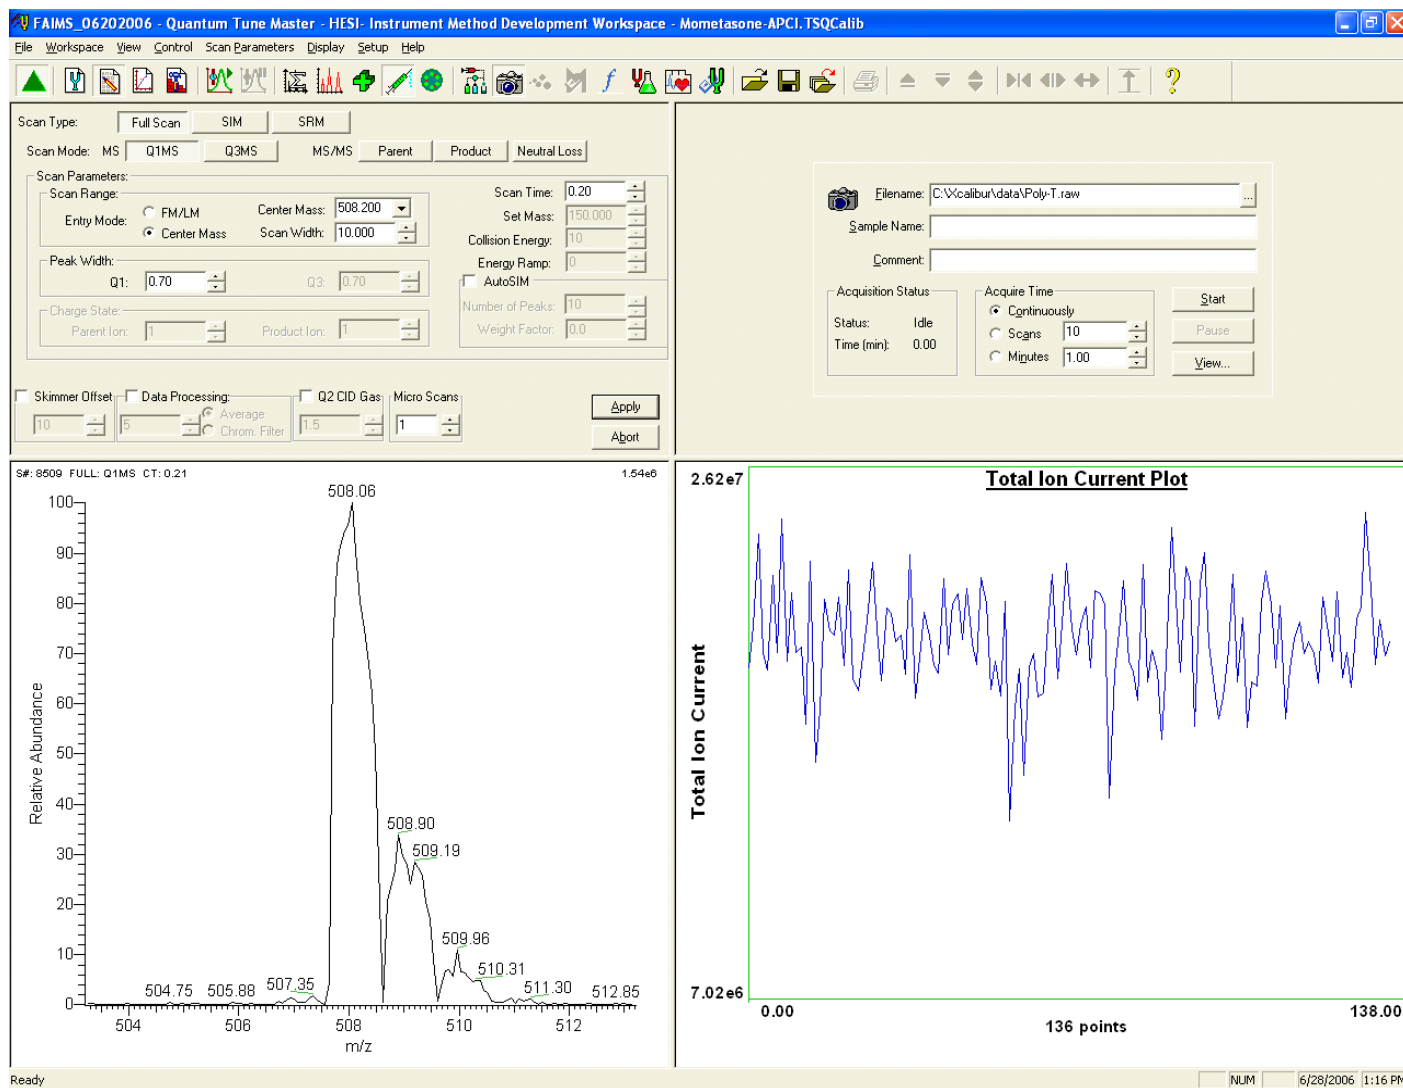

Figure 33. Instrument Method Development workspace, showing stable ion beam
- Click on the **Creep** toolbar button to invoke the creep Y-axis normalization mode. This enables you to observe changes in the intensities of the ions. The profile mass spectrum at m/z 508 is shown in Figure 33.